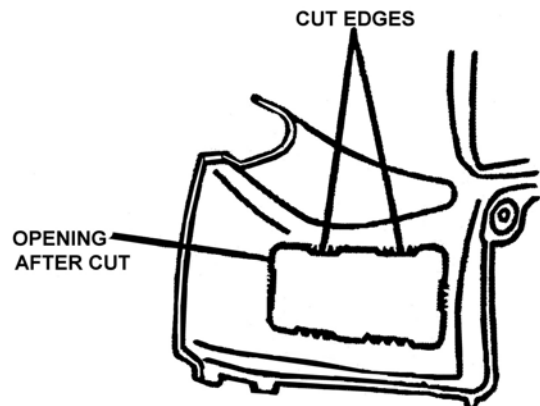

Figure 4
3. Cut out the left and right knock out panels, Fig 3A, with a hacksaw blade, using the molded slots, Fig 3B, as the outline. Smooth the cut edges with a flat file, Fig 4, flush with the opening.